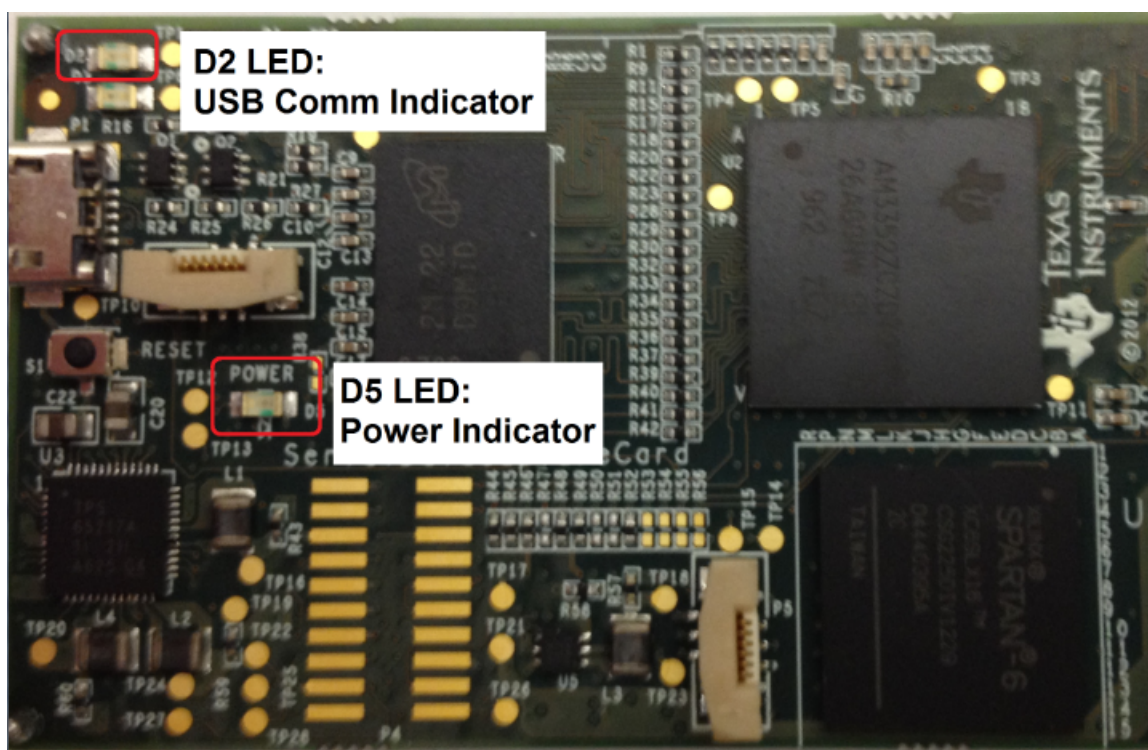

Figure 7. LED Indicators on the SDCC Board
- Step 5. Verify that the LED D5 *Power Good* indicator is illuminated. Wait approximately ten seconds and verify that diode D2 blinks, indicating that USB communication with the host PC is functioning properly. Figure 7 shows the location of the LED indicators in the SDCC controller board.